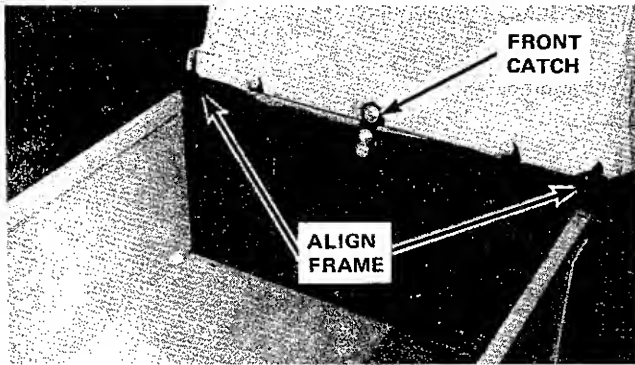

FIGURE 8
1. Install the front catch as shown, using a 3/8 x 1 cap-screw flat washer and locknut. Tighten the locknut enough to hold securely but still allow the catch to pivot. (See Figure 8).
2. Unfold the canvas and frame assembly so that the vertical frame members are upright. Align the ends of the frame channels with the cart side wall upper edges and slide the assembly forward onto the cart. Turn the catch down over the front edge of the box. (See Figure 8)